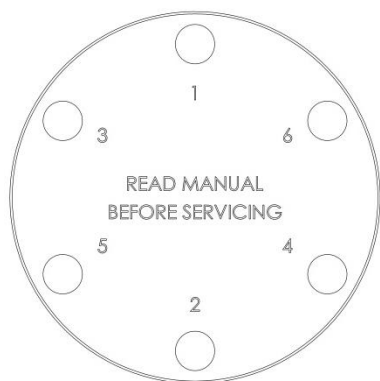

Fig. 6-13 Bolt tightening sequence
- Use high temperature anti seize compound on clean threads of bolts (a) and tighten them first to 5 ft-lb (6.7 Nm) following the pattern shown in figure 6-13. Following the tightening pattern again, torque the bolts to 15 ft-lb (20 Nm) torque.